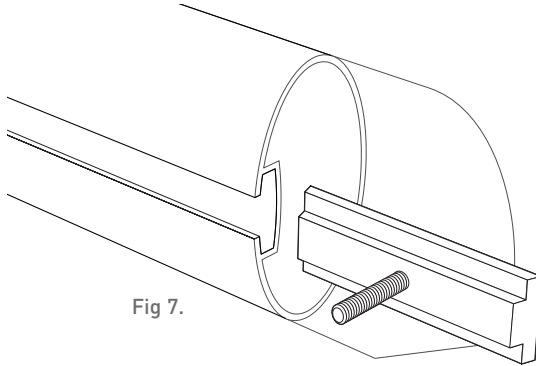

Fig 7.
4. Slide the Channel Inserts into the channel on the back of the TV55 - the bolts should be pointing away from the antenna. See Fig 7.